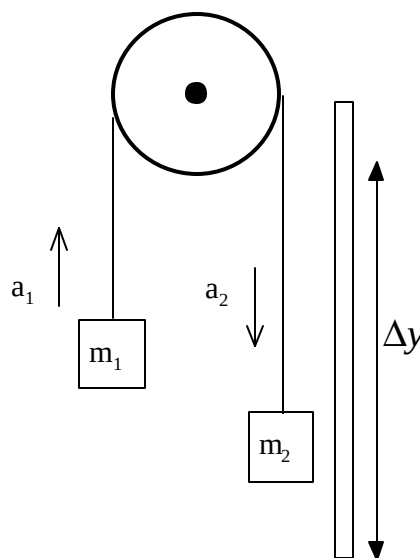
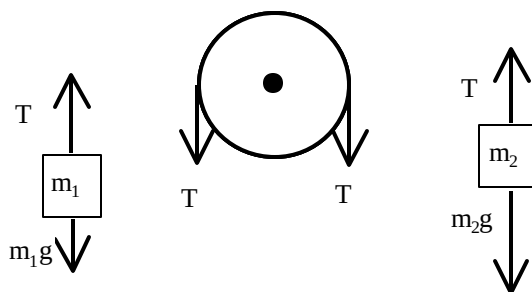

Figure 3: Mass and pulley system
Figure 4: Force diagrams - draw each object separately
When two masses are suspended by a string over a pulley (Figure 3) each feels a downward force due to its weight ($W=mg$) and an upward force due to the tension (T) in the string (Figure 4). If these two forces are equal, then the net force on the mass is zero and, as Newton’s first law tells us, there will be *no acceleration* of the mass